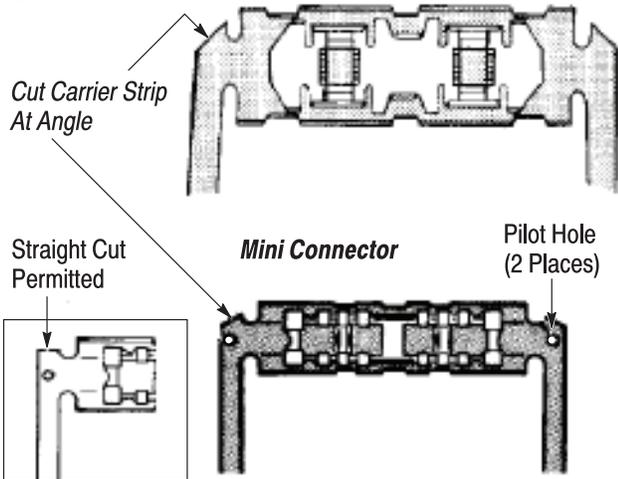

Figure 2
3. Cut the ends of the carrier strip as shown in Figure 2. For mini connectors, DO NOT cut through the pilot holes.